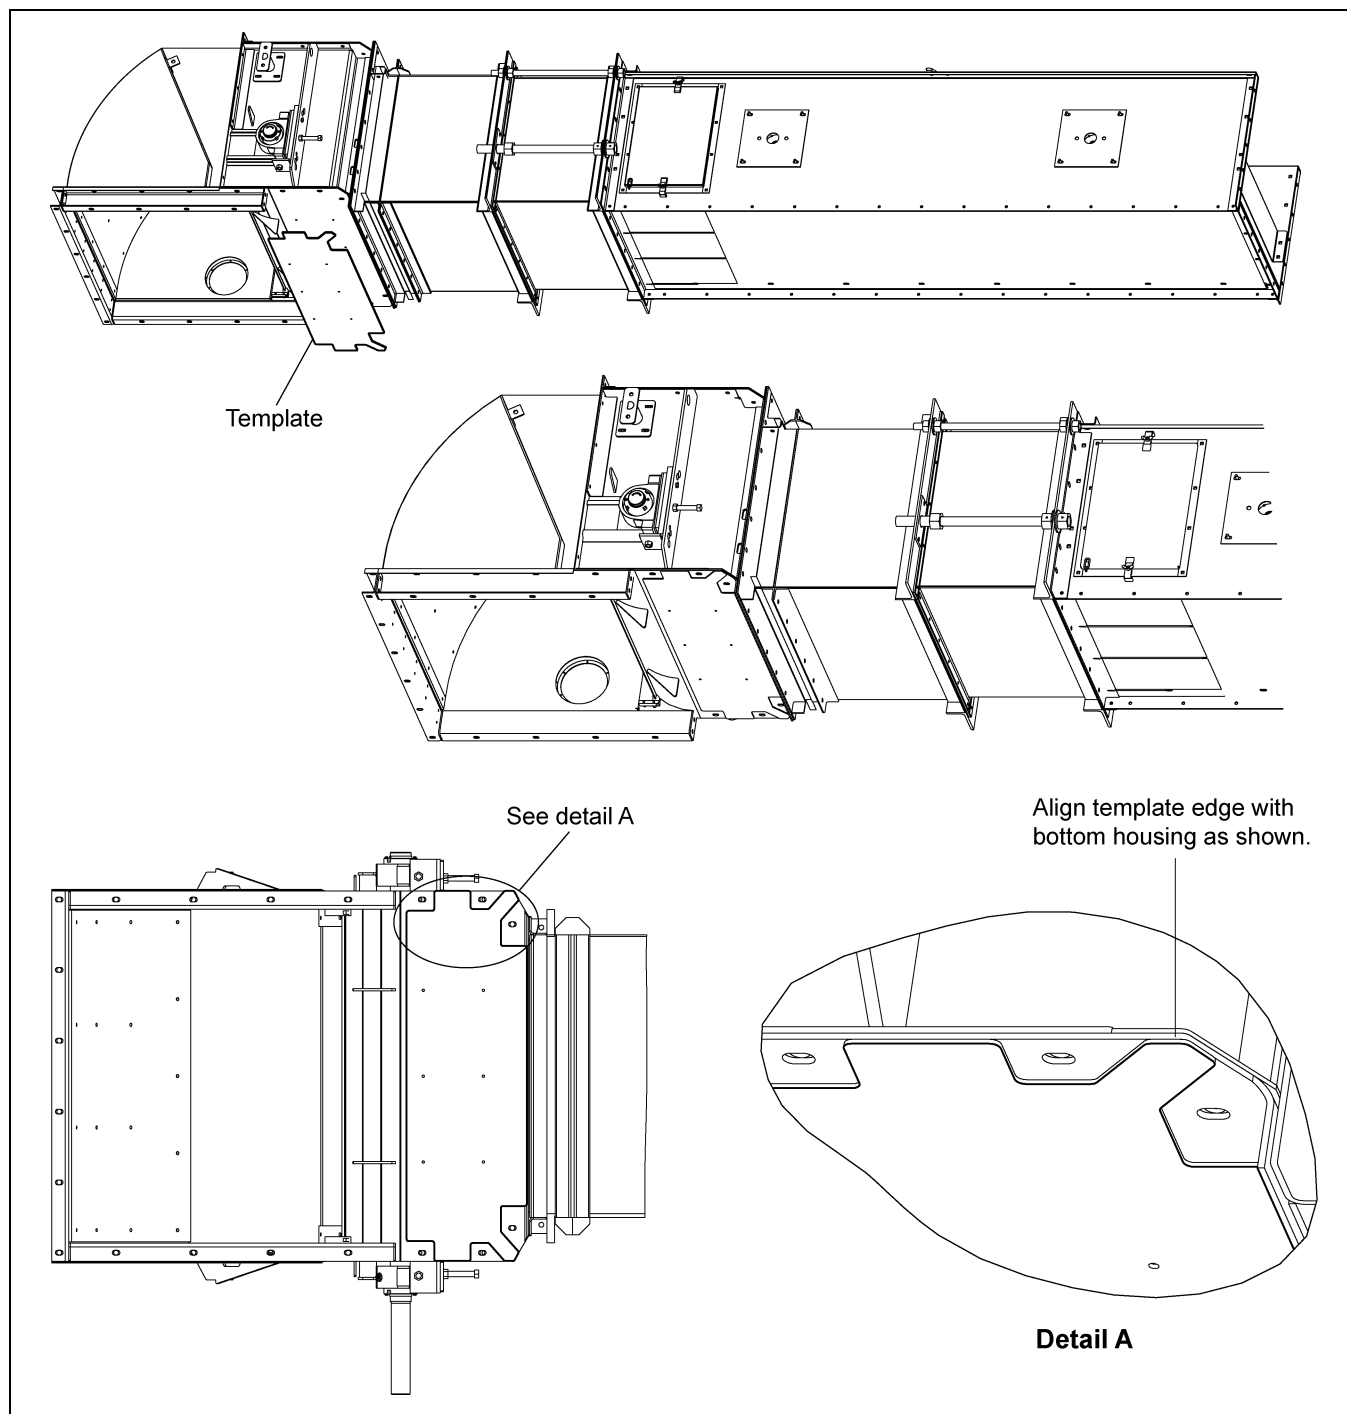

Figure 1
2. Using the template as a guide, drill six (6) 9/32" holes into the bottom of the housing. *(See Figure 1.)*